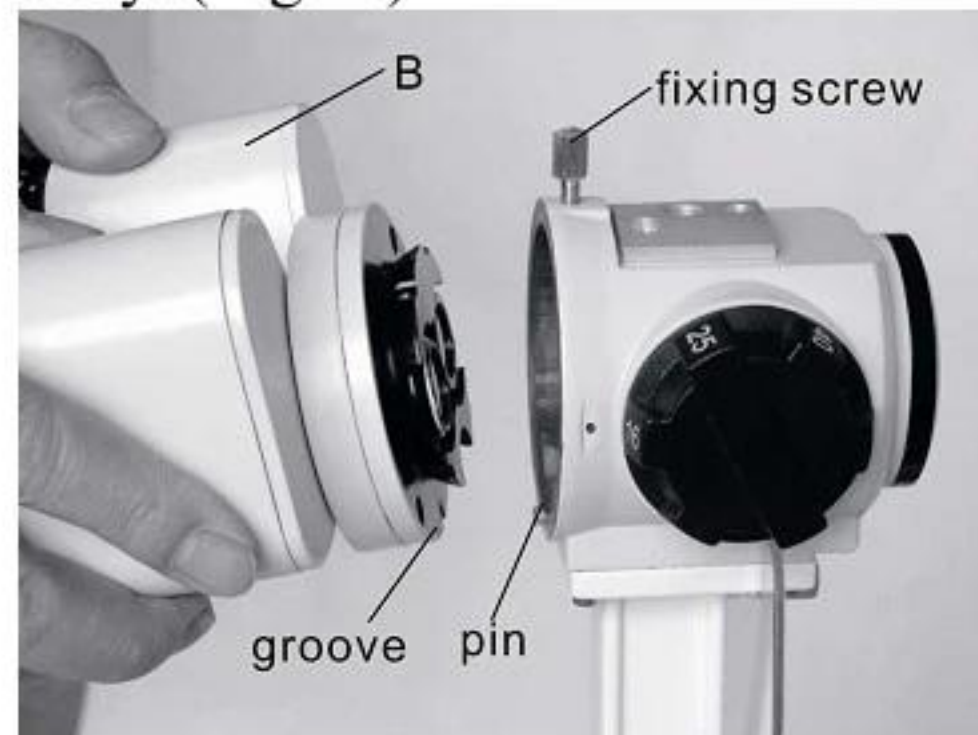

Fig.10
6) Assembling the Converging Binocular Tubes (B)
- ✧ Match the groove on the binocular tubes with the pin on the microscope body. (Fig.10)